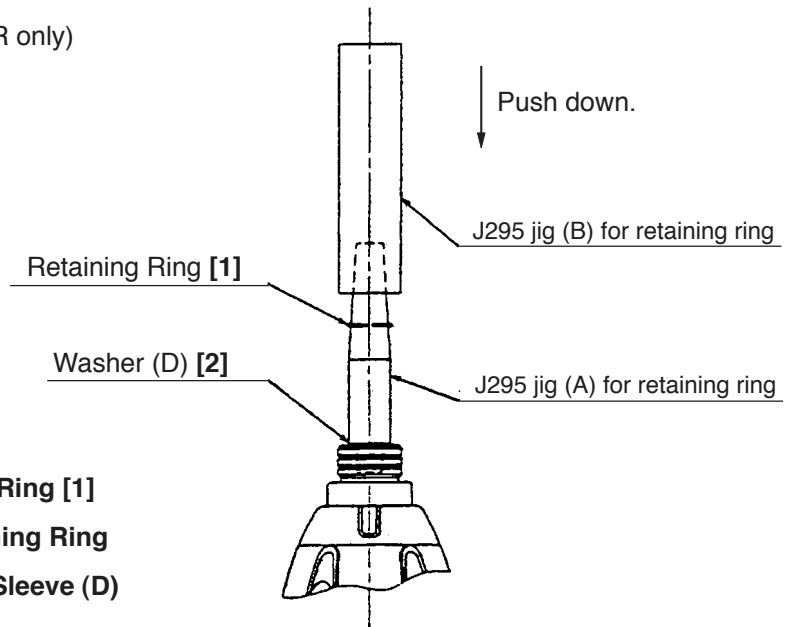

Fig. 19
(6) Mounting Guide Sleeve (D) [4] (WH 12DMR only)
Insert the two Steel Balls D3.5 [9] into the hole of Anvil (F) [10]. Mount Guide Sleeve (D) [4], Guide Spring (B) [3] and Washer (D) [2] in sequence. Mount the Retaining Ring [1] into the groove of anvil using the J295 jigs (A) and (B) for retaining ring as illustrated in Fig. 19.
**NOTE: Be sure to replace the Retaining Ring [1] with new one because the Retaining Ring [1] may be deformed and Guide Sleeve (D) [4] may come off if the deformed Retaining Ring [1] is used again.**